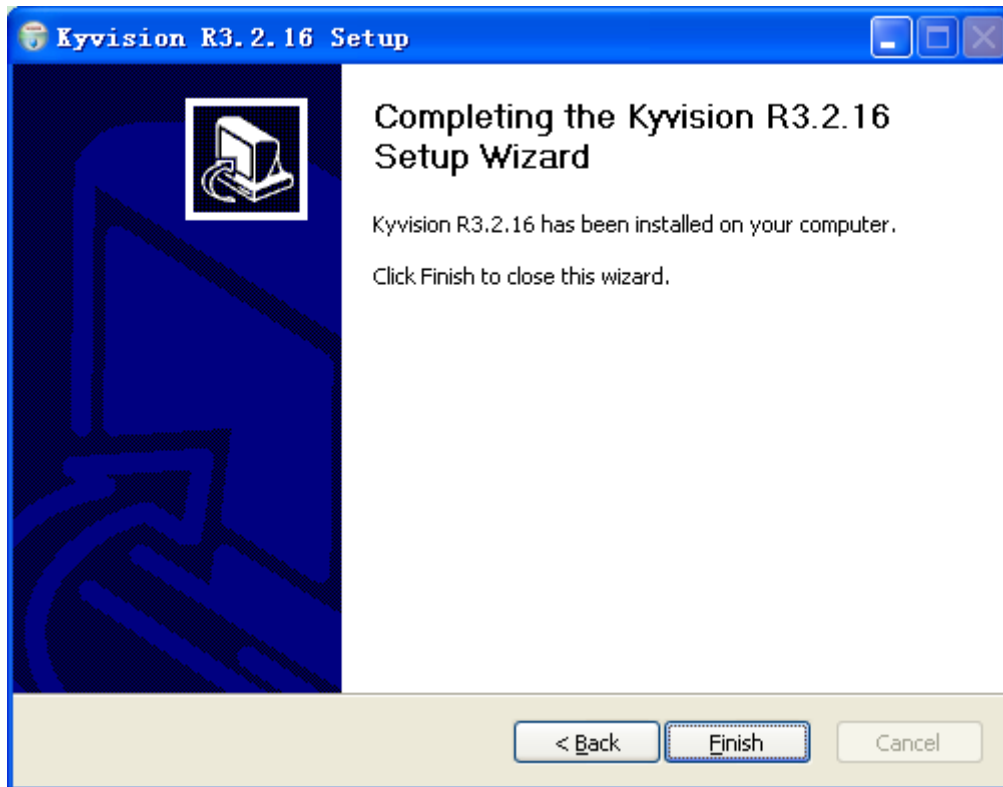

Figure 11 Completing Installation
9.The installation is completed, as shown in Figure 11. Click <Finish>.